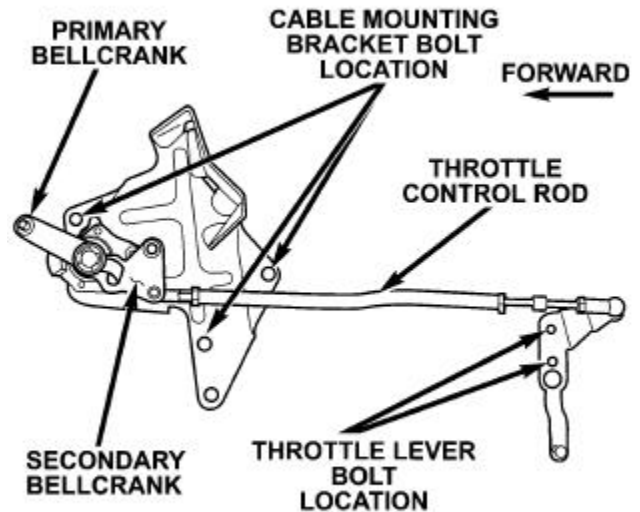

Figure 4
19. Remove the three cable mounting bracket bolts (Figure 4).
20. Remove the two throttle lever bolts (Figure 4).
21. Remove the cable mounting bracket, throttle lever and control rod as an assembly (Figure 4).
36. Install the throttle control bracket, throttle rod and throttle lever onto the engine as an assembly (Figure 4).
37. Tighten the three cable mounting bracket bolts to 18 ft. lbs. (24 N·m) (Figure 4).
38. Tighten the two throttle lever bolts to 80 in. lbs. (9 N·m) (Figure 4).